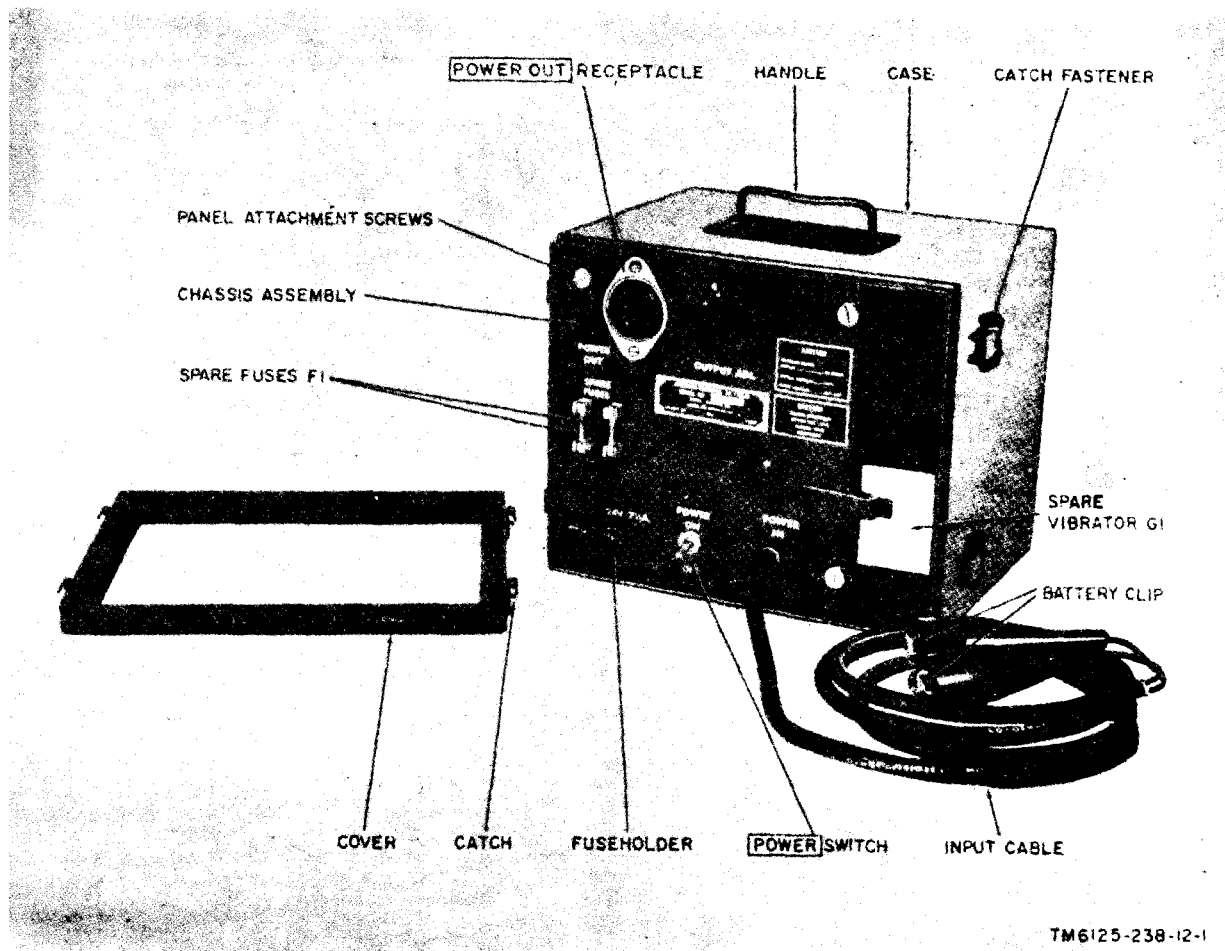

Figure 1. Inverter, Vibrator PP-1703/U, less technical manuals.
1. Scope (fig. 1)
a. Inverter, Vibrater PP-1703/U (fig. 1) is a portable vibrator-type power supply that supplies 115 volts alternating current (ac) at 60 cycles per second (cps). The primary power source required is a 24-, 26-, 28-, or 30-volt storage battery. The inverter can be operated continuously with a power output of 80 watts maximum (24-volt primary source), 67 watts maximum (26-volt primary source), 53 watts maximum (28-volt primary source), or 40 watts maximum (30-volt primary source).
The components of the PP-1703/U are listed in the basic issue items list (appx III). The major components are illustrated in figure 1.
7. Description of Inverter, Vibrator PP-1703/U (fig. 1)
11. Connections (fig. 1)